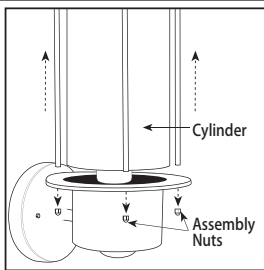

Figure 12
- j. For Cylinder fixtures, unscrew the assembly nuts from bottom, lift body of fixture slightly. Insert bulb. Reattach body using assembly nuts (see figure 12).